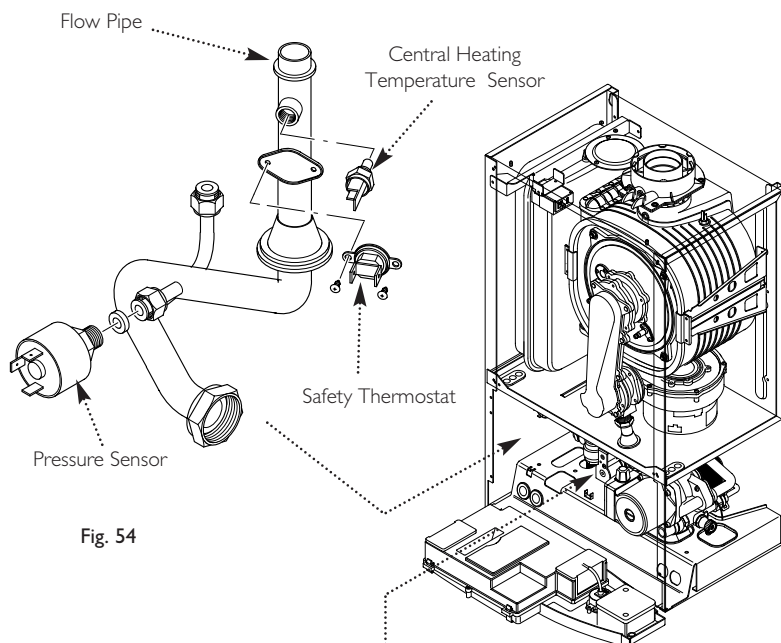

Fig. 54
12.9 Water Pressure Sensor (Fig. 54)
12.10 Central Heating Temperature Sensor (NTC) (Fig. 54)
12.11 Safety Thermostat (Fig. 54)